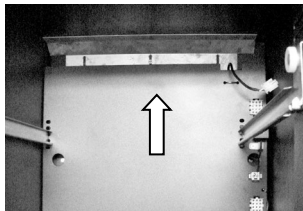

Figure 12: Turning Vane
7. Remove one of two existing Turning Vanes (see Fig.12) located in center opening
The inlet screen is a long narrow screen located on the bottom right side. It can only be accessed from underneath the cabinet. See Figure 12 on page 36. Remove dust and debris from the inlet screen to allow air to flow to the condenser coils.